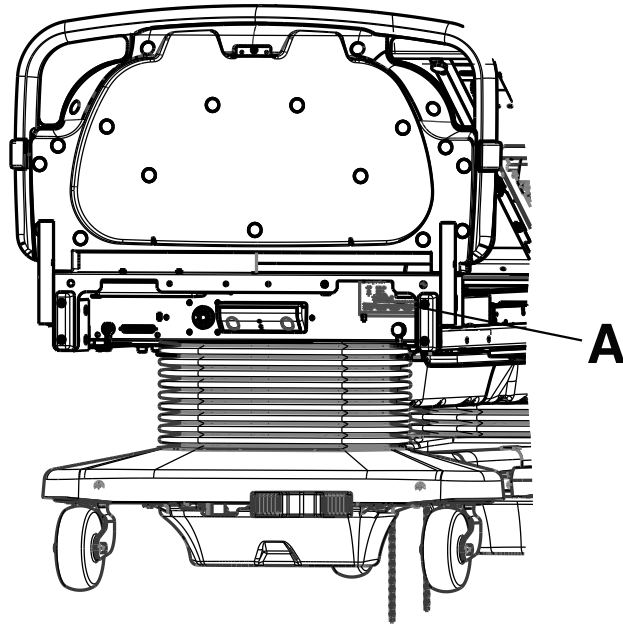

Figure 1 – Serial number location
You can find the serial number (A) above the power cord behind the headboard (Figure 1).